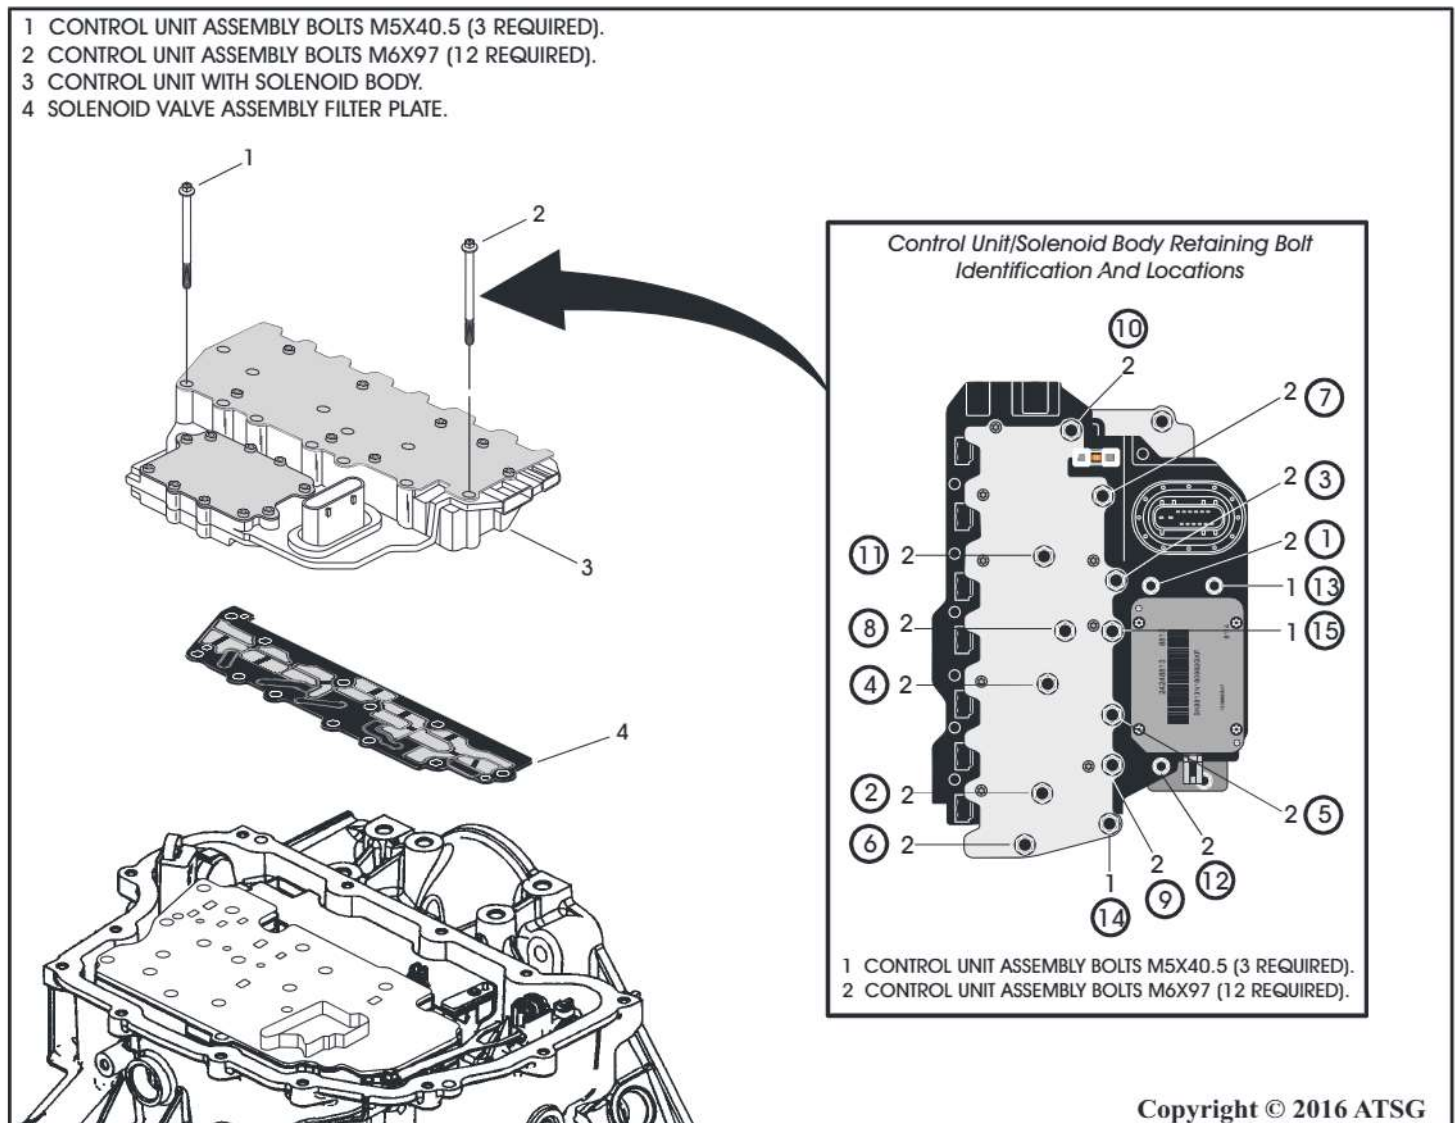

Figure 178
118. Install a new solenoid body filter plate as seen in Figure 178 onto the two plastic dowel pins in the solenoid body.
119. Install the transmission control unit/solenoid body assembly onto the control valve body as seen in Figure 178.
120. Insert the three (3) M5X40.5 and the twelve (12) M6X97 control unit assembly bolts using the bolt location identification seen in Figure 178.
121. Torque the three M5X40.5 control unit assembly bolts to 62 lb. in. (7 N·m). Torque the twelve (12) control unit assembly bolts to 89 lb. in. (10 N·m) using the bolt tightening sequence shown in Figure 178.